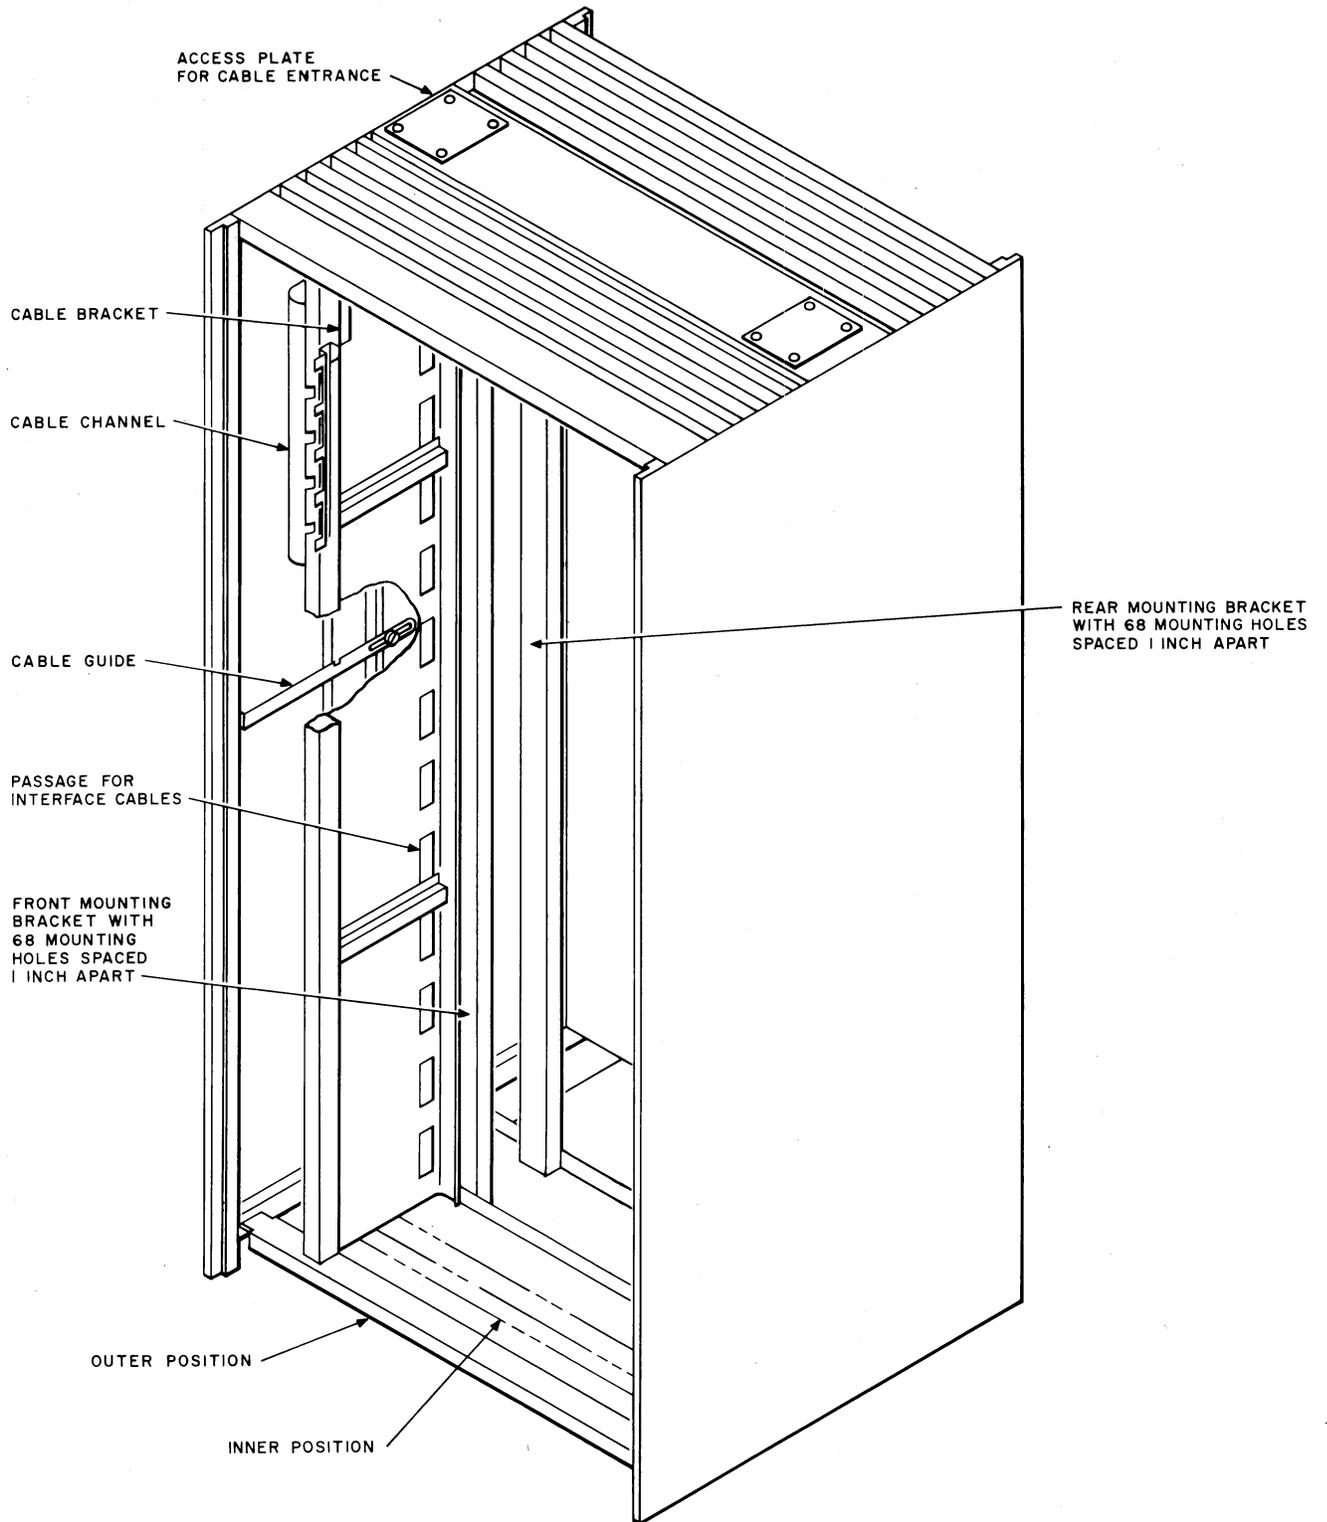

Fig. 5—KS-20093-L1 Cabinet
4.02 The cabinet is designed to accept interface and power cords through either the top or the bottom. The bottom of the cabinet is open and the top has two 3- by 4-inch holes (Fig. 5). When the overhead cable entrance is used, a KS-20093-